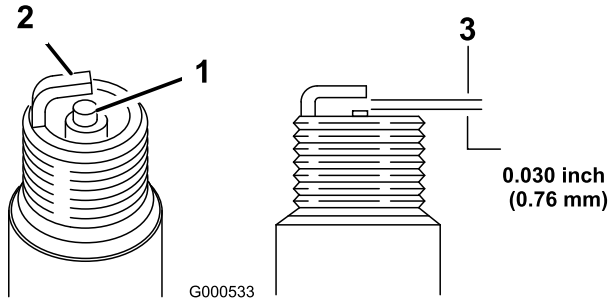

Figure 51
1. Look at the center of the spark plugs (Figure 51).
2. Check the gap between the center and side electrodes (Figure 51) and bend the side electrode, if the gap is not correct.